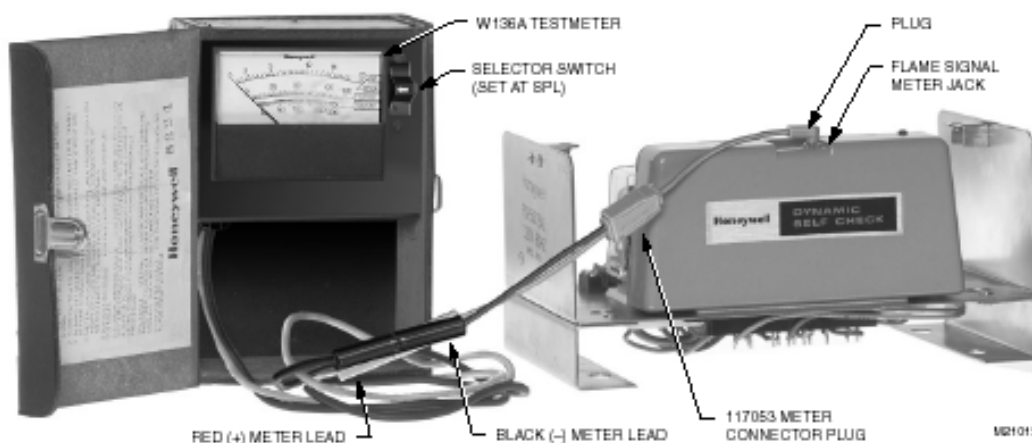

Fig. 4. Setup for flame signal measurement, R7476A Amplifier.
1. Use a Honeywell W136A Test Meter with the selector switch set at SPL (see Fig. 4). If a W136A Meter is not available, a microammeter with a 0 to 5 microampere dc range, shunted with a 50 microfarad capacitor, may be used.